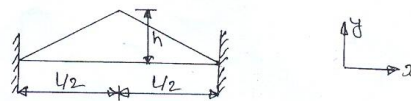

Fig.Q.8
- 8 Uniform string of length l , fixed at both ends is pulled laterally by a distance h at its mid point as shown in Fig.Q.8 and then released. Determine the equation of motion for the string. (20 Marks)